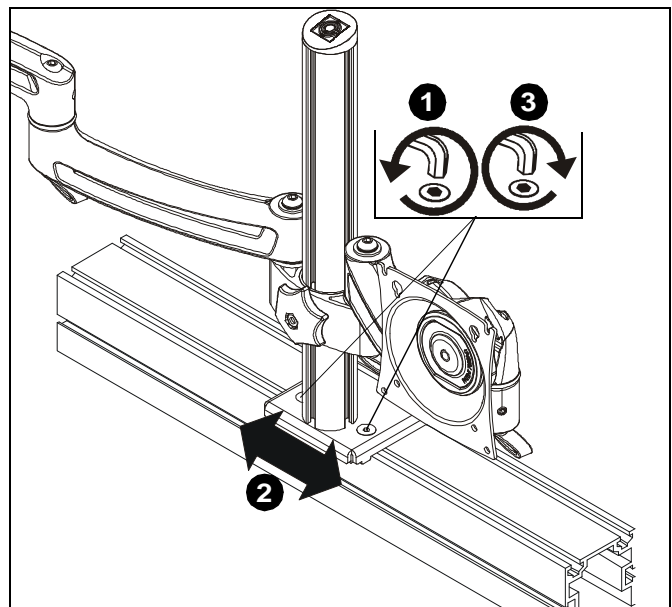

Figure 6
1. Loosen two #10-32 x 7/8" flat head cap screws (E). (See Figure 6)
2. Adjust lateral shift position as desired. (See Figure 6)
3. Tighten two #10-32 x 7/8" flat head cap screws (E). (See Figure 6)